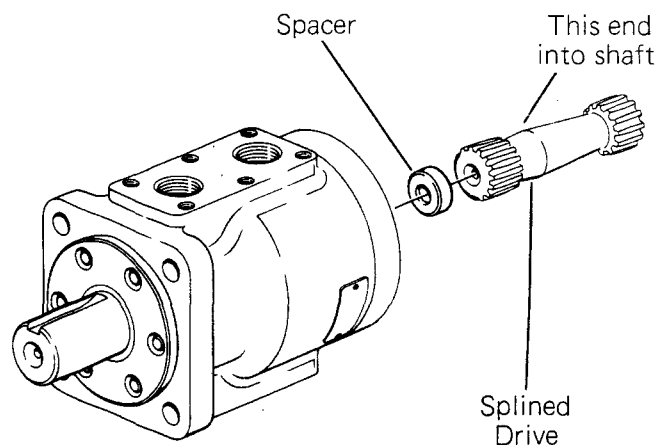

Figure 16
**43** Install drive as shown in Fig. 16. Observe proper timing procedures as shown in Fig. 19. (Ref. B).